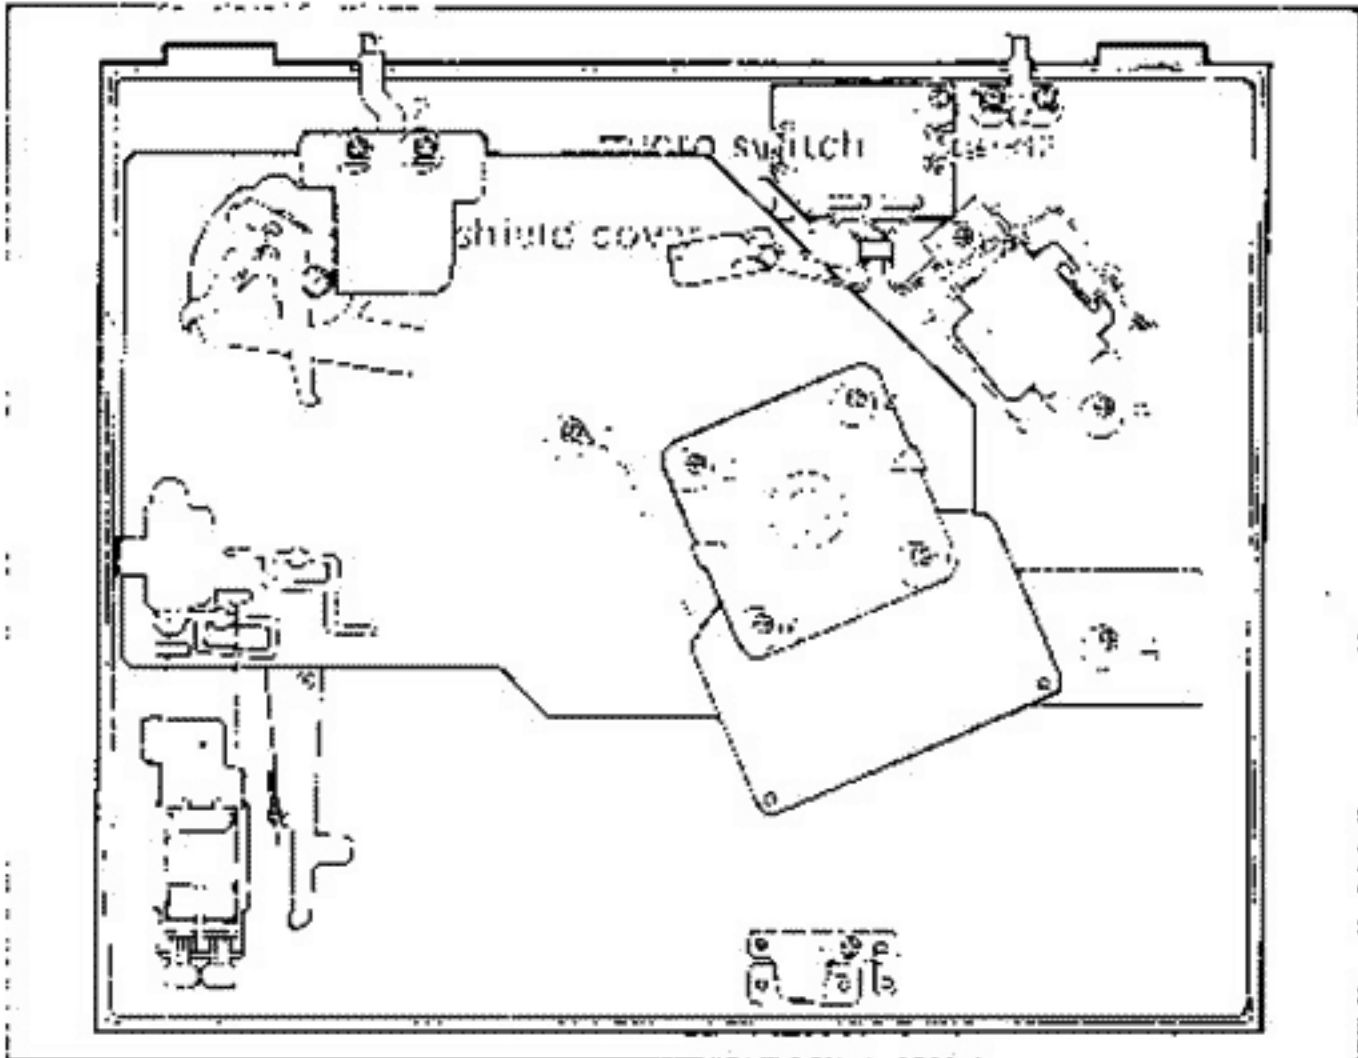

Fig. 2
a. Remove the shield cover by unscrewing ① and ② in Fig. 2.
①: Bind Head B-Tyte Screw 3 x 8Y
②: Bind Head B-Tyte Screw with Washer 3 x 8Y
b. Remove screws ③ ~ ⑦ in Fig. 2 and then remove the motor.
③ ~ ⑦: Bind Head P-Tyte Screw 3 x 10Y
Remove screw ⑧ in Fig. 2 and remove the LED socket Ass'y.
b. Replace the power transformer by unscrewing ⑨ and ⑩ in Fig. 2.
⑨, ⑩: Bind Head P-Tyte Screw 3 x 12Y
- a. Remove the cord stopper by unscrewing ⑪ and ⑫ in Fig. 2.
⑪、⑫ : Bind Head P-Tyte Screw 3 x 12Y
- b. Remove the first circuit board by unscrewing ⑬ in Fig. 2.
⑬ : Bind Head P-Tyte Screw 3 x 10Y
- b. Remove the second circuit board by unscrewing ⑭ in Fig. 2.
⑭ : Bind Head P-Tyte Screw 3 x 10Y
- b. Unscrew ① ~ ⑩ and remove the selector button Ass'y, base Ass'y and repeat Ass'y at the same time